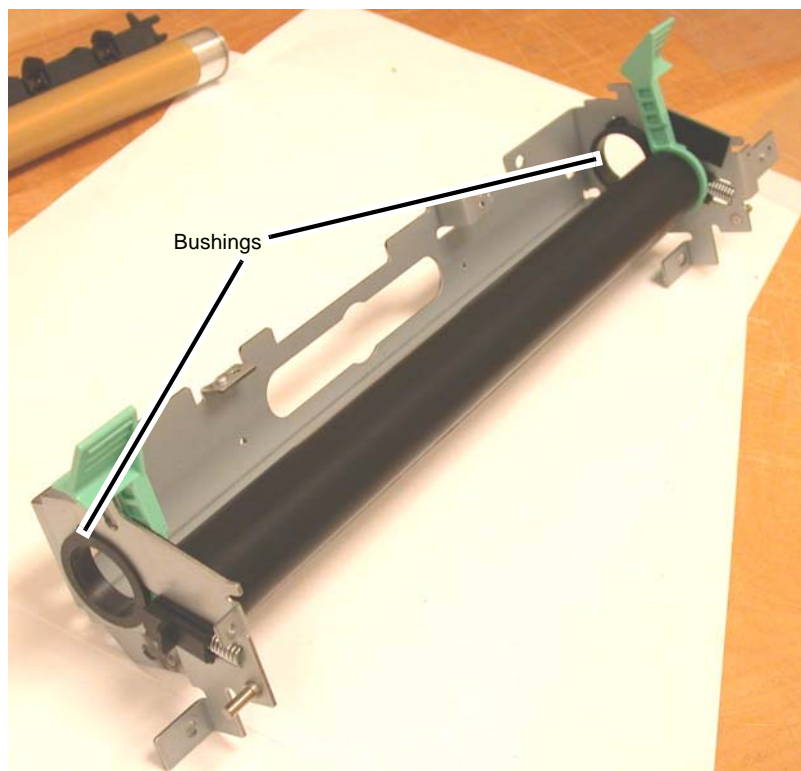

Figure 1 Removing the Bushings
2. Remove the Bushings (Figure 1).